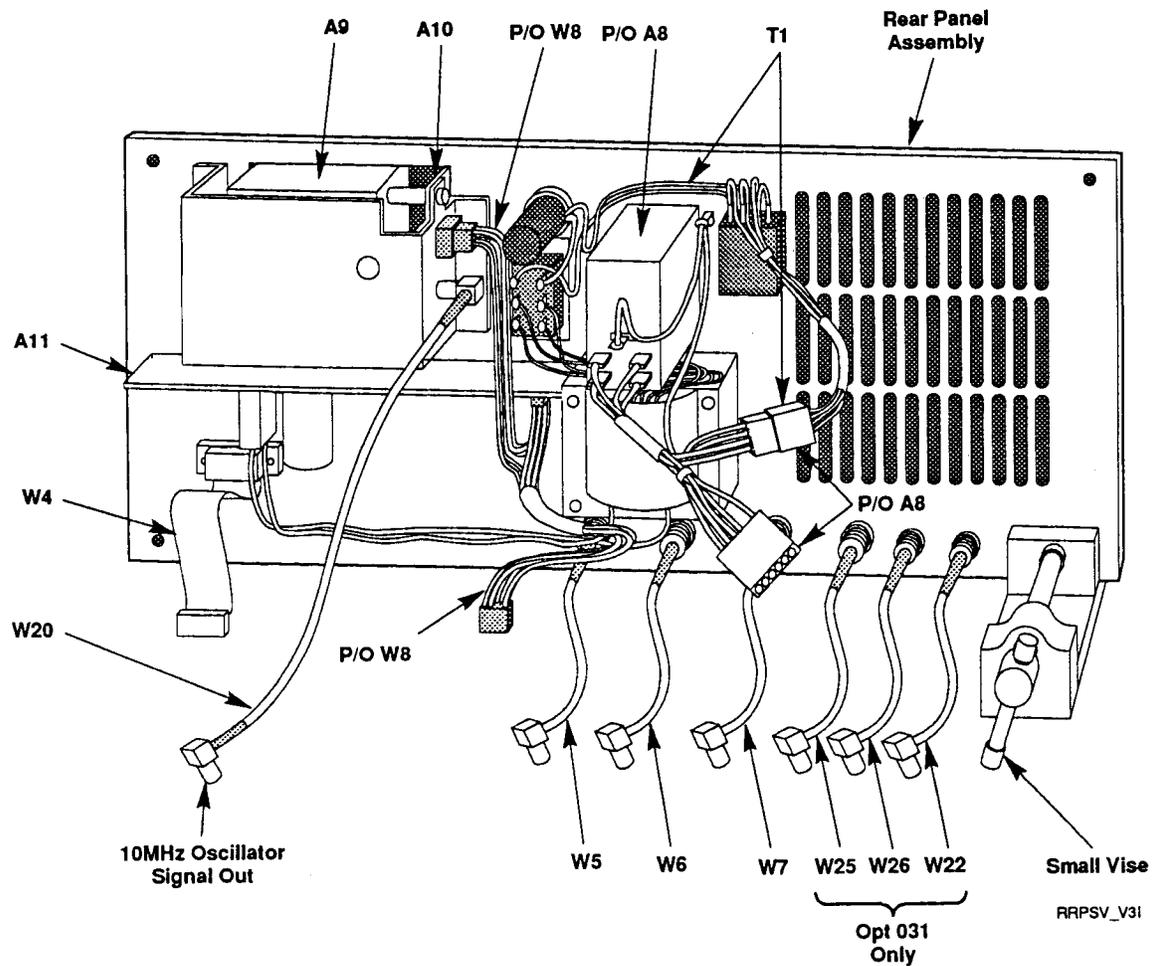

Figure 4-28. Removed Rear Panel Assembly in Small Vice
- c. Using a small bench vise, support the rear panel vertically for ease of troubleshooting as shown in *Figure 4-28*.